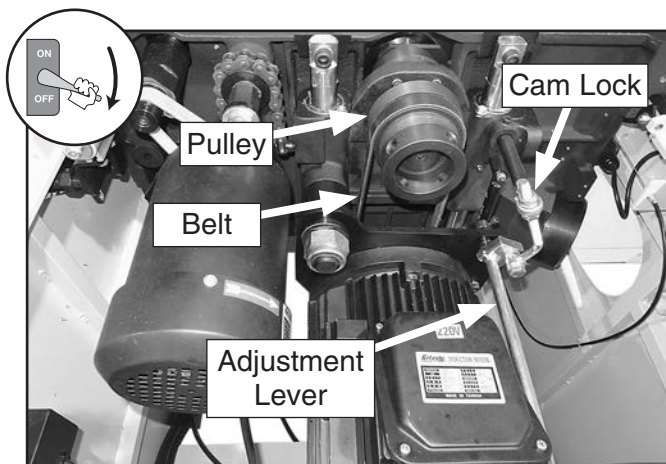

Figure 153. Main motor V-belt tension controls (table removed for photo clarity).
2. Open cabinet door and locate motor adjustment lever shown in **Figure 153**.